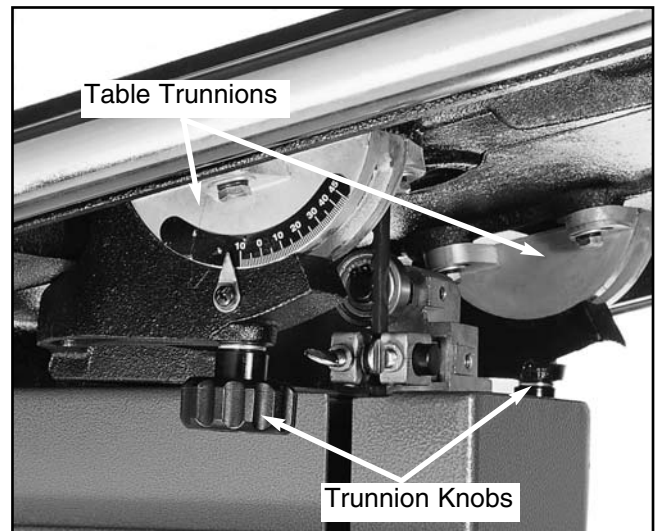

Figure 5. Table mounting components.
6. Secure the table to the support bracket by securing the two trunnion knobs (shown in **Figure 5**) onto the trunnion bolts.